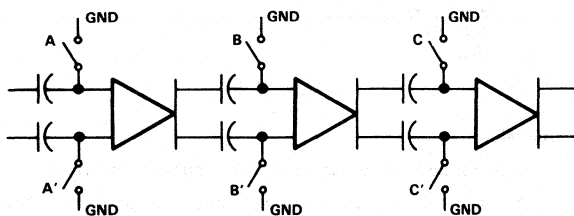

FIGURE 1
1. The IN + and IN – inputs are internally shorted together in order that the comparator input is zero. A coarse comparator offset calibration is performed by storing the offset voltages of the interconnecting comparator stages on the coupling capacitors, which connect the interconnecting stages. Refer to Figure 1. The storage of offset voltages is accomplished by closing all switches and then opening switches A and A', then switches B and B', and then C and C'. This process continues until all interconnecting stages of the comparator are calibrated. After this action, some of the comparator offset still remains uncalibrated.